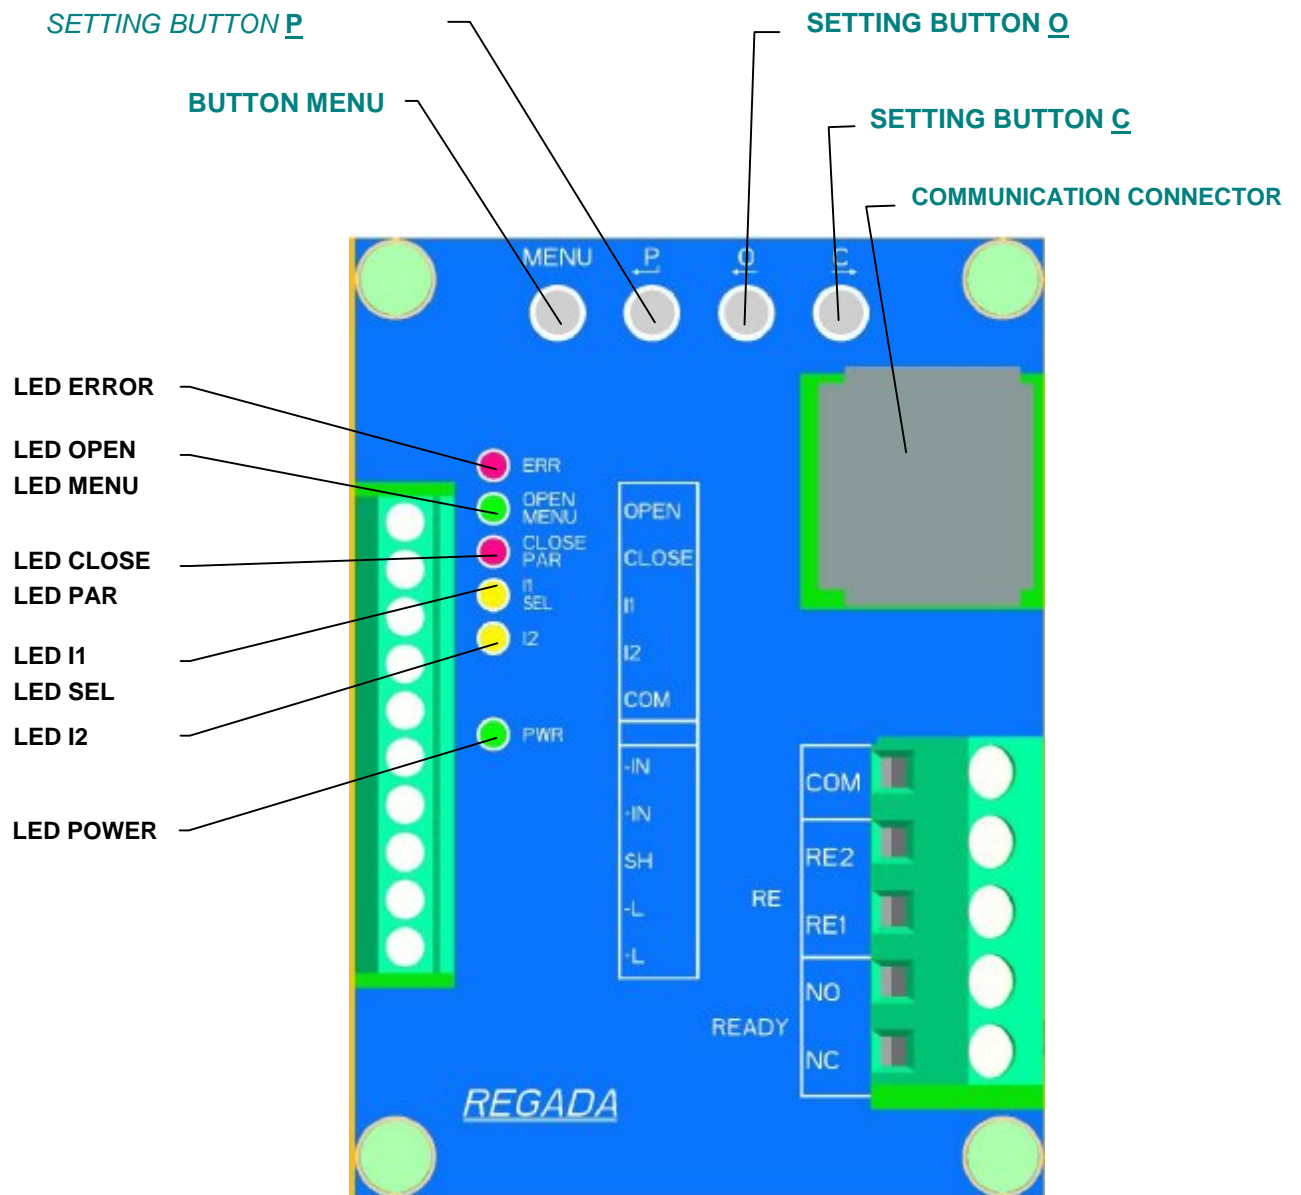
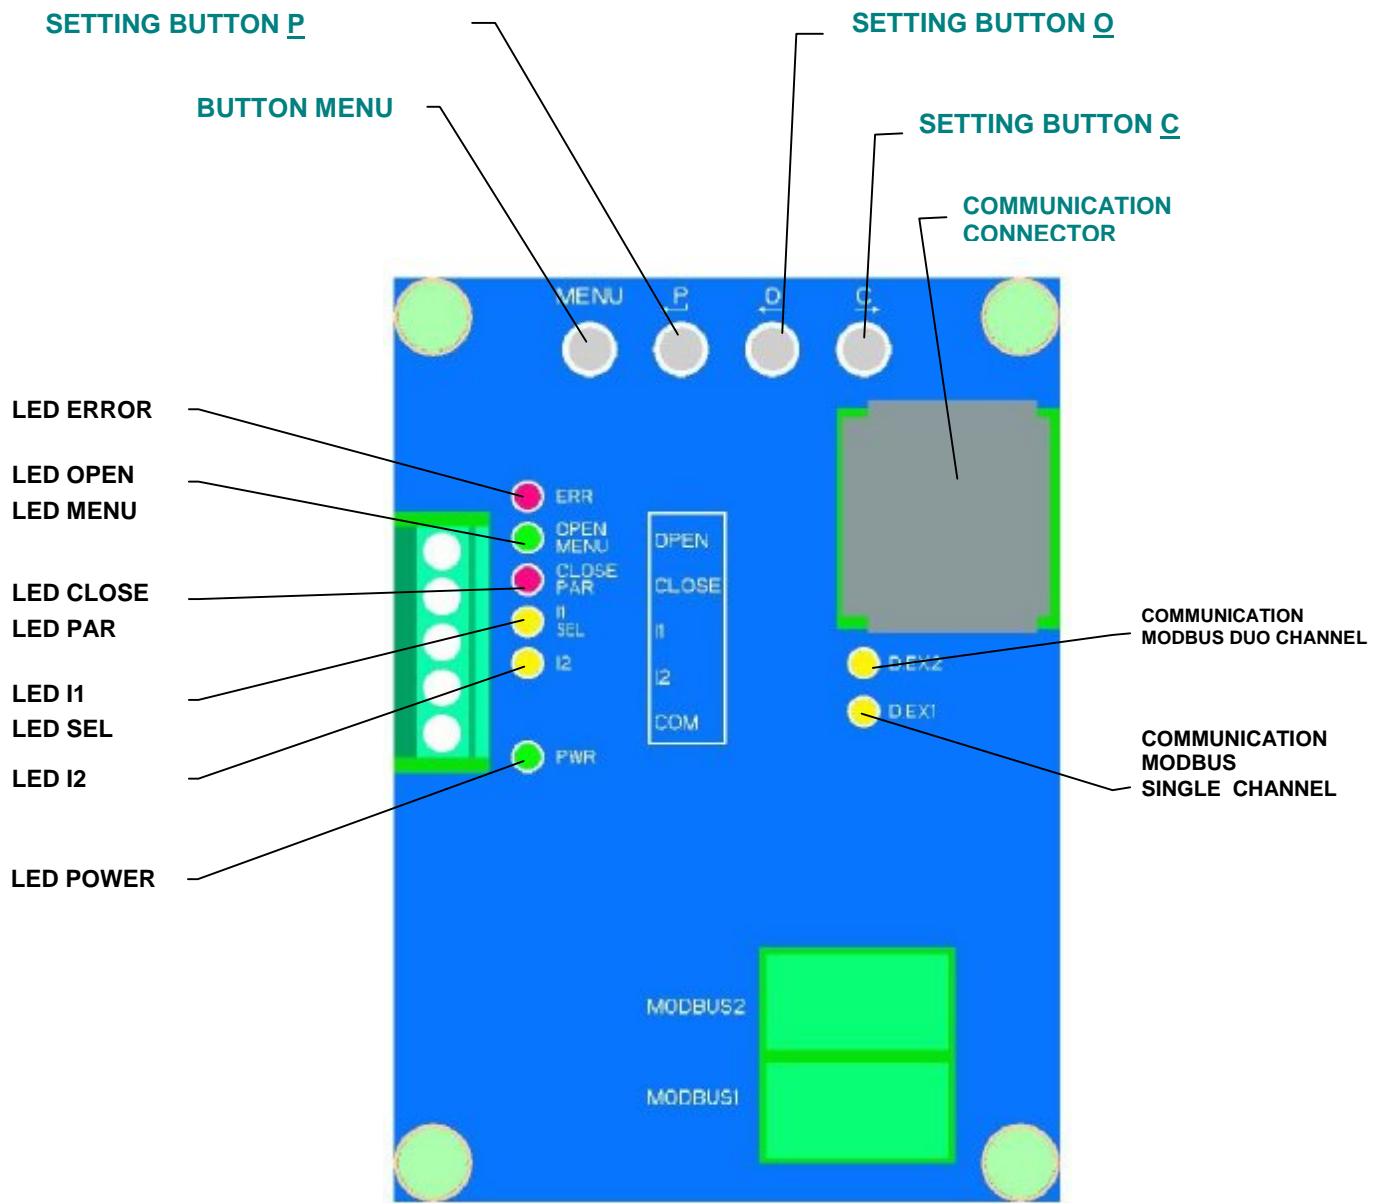

Fig. 6
Fig.6a
The adjustment can be performed at a mechanically and electrically connected EA. This chapter describes how to set up the EA to parameter values within a range applicable for the software. Laying of adjusters of the control board is shown on **Fig.6 and Fig.6a**.
- by operating the control unit buttons (**see Fig. 6 and Fig.6a**)
- six signal lamps according (LED diode) to **Fig. 6 and Fig.6a**.